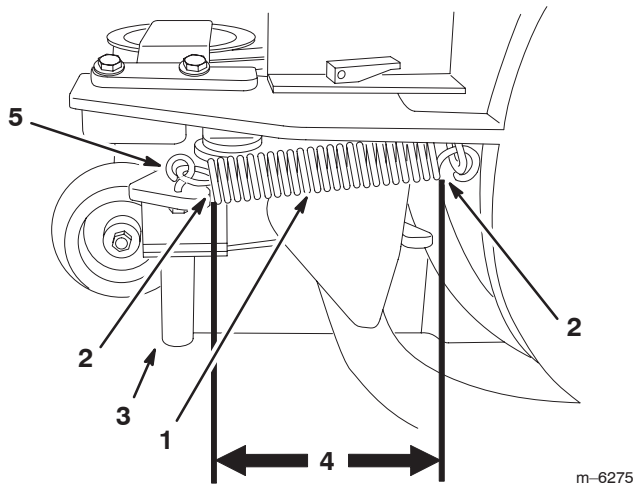

Figure 23
Note: When checking the belt tension, the spring length needs to be **between 4 inches and 4-3/4 inches** (102 and 121 mm) (Fig. 23).
3. Close the blower assembly and measure between the spring coil ends. See Figure 23 for measuring the spring length and eye hook orientation.
Note: When adjustment is needed, set the spring length between 4 inches and 4-3/4 inches (102 and 121 mm) (Fig. 23).